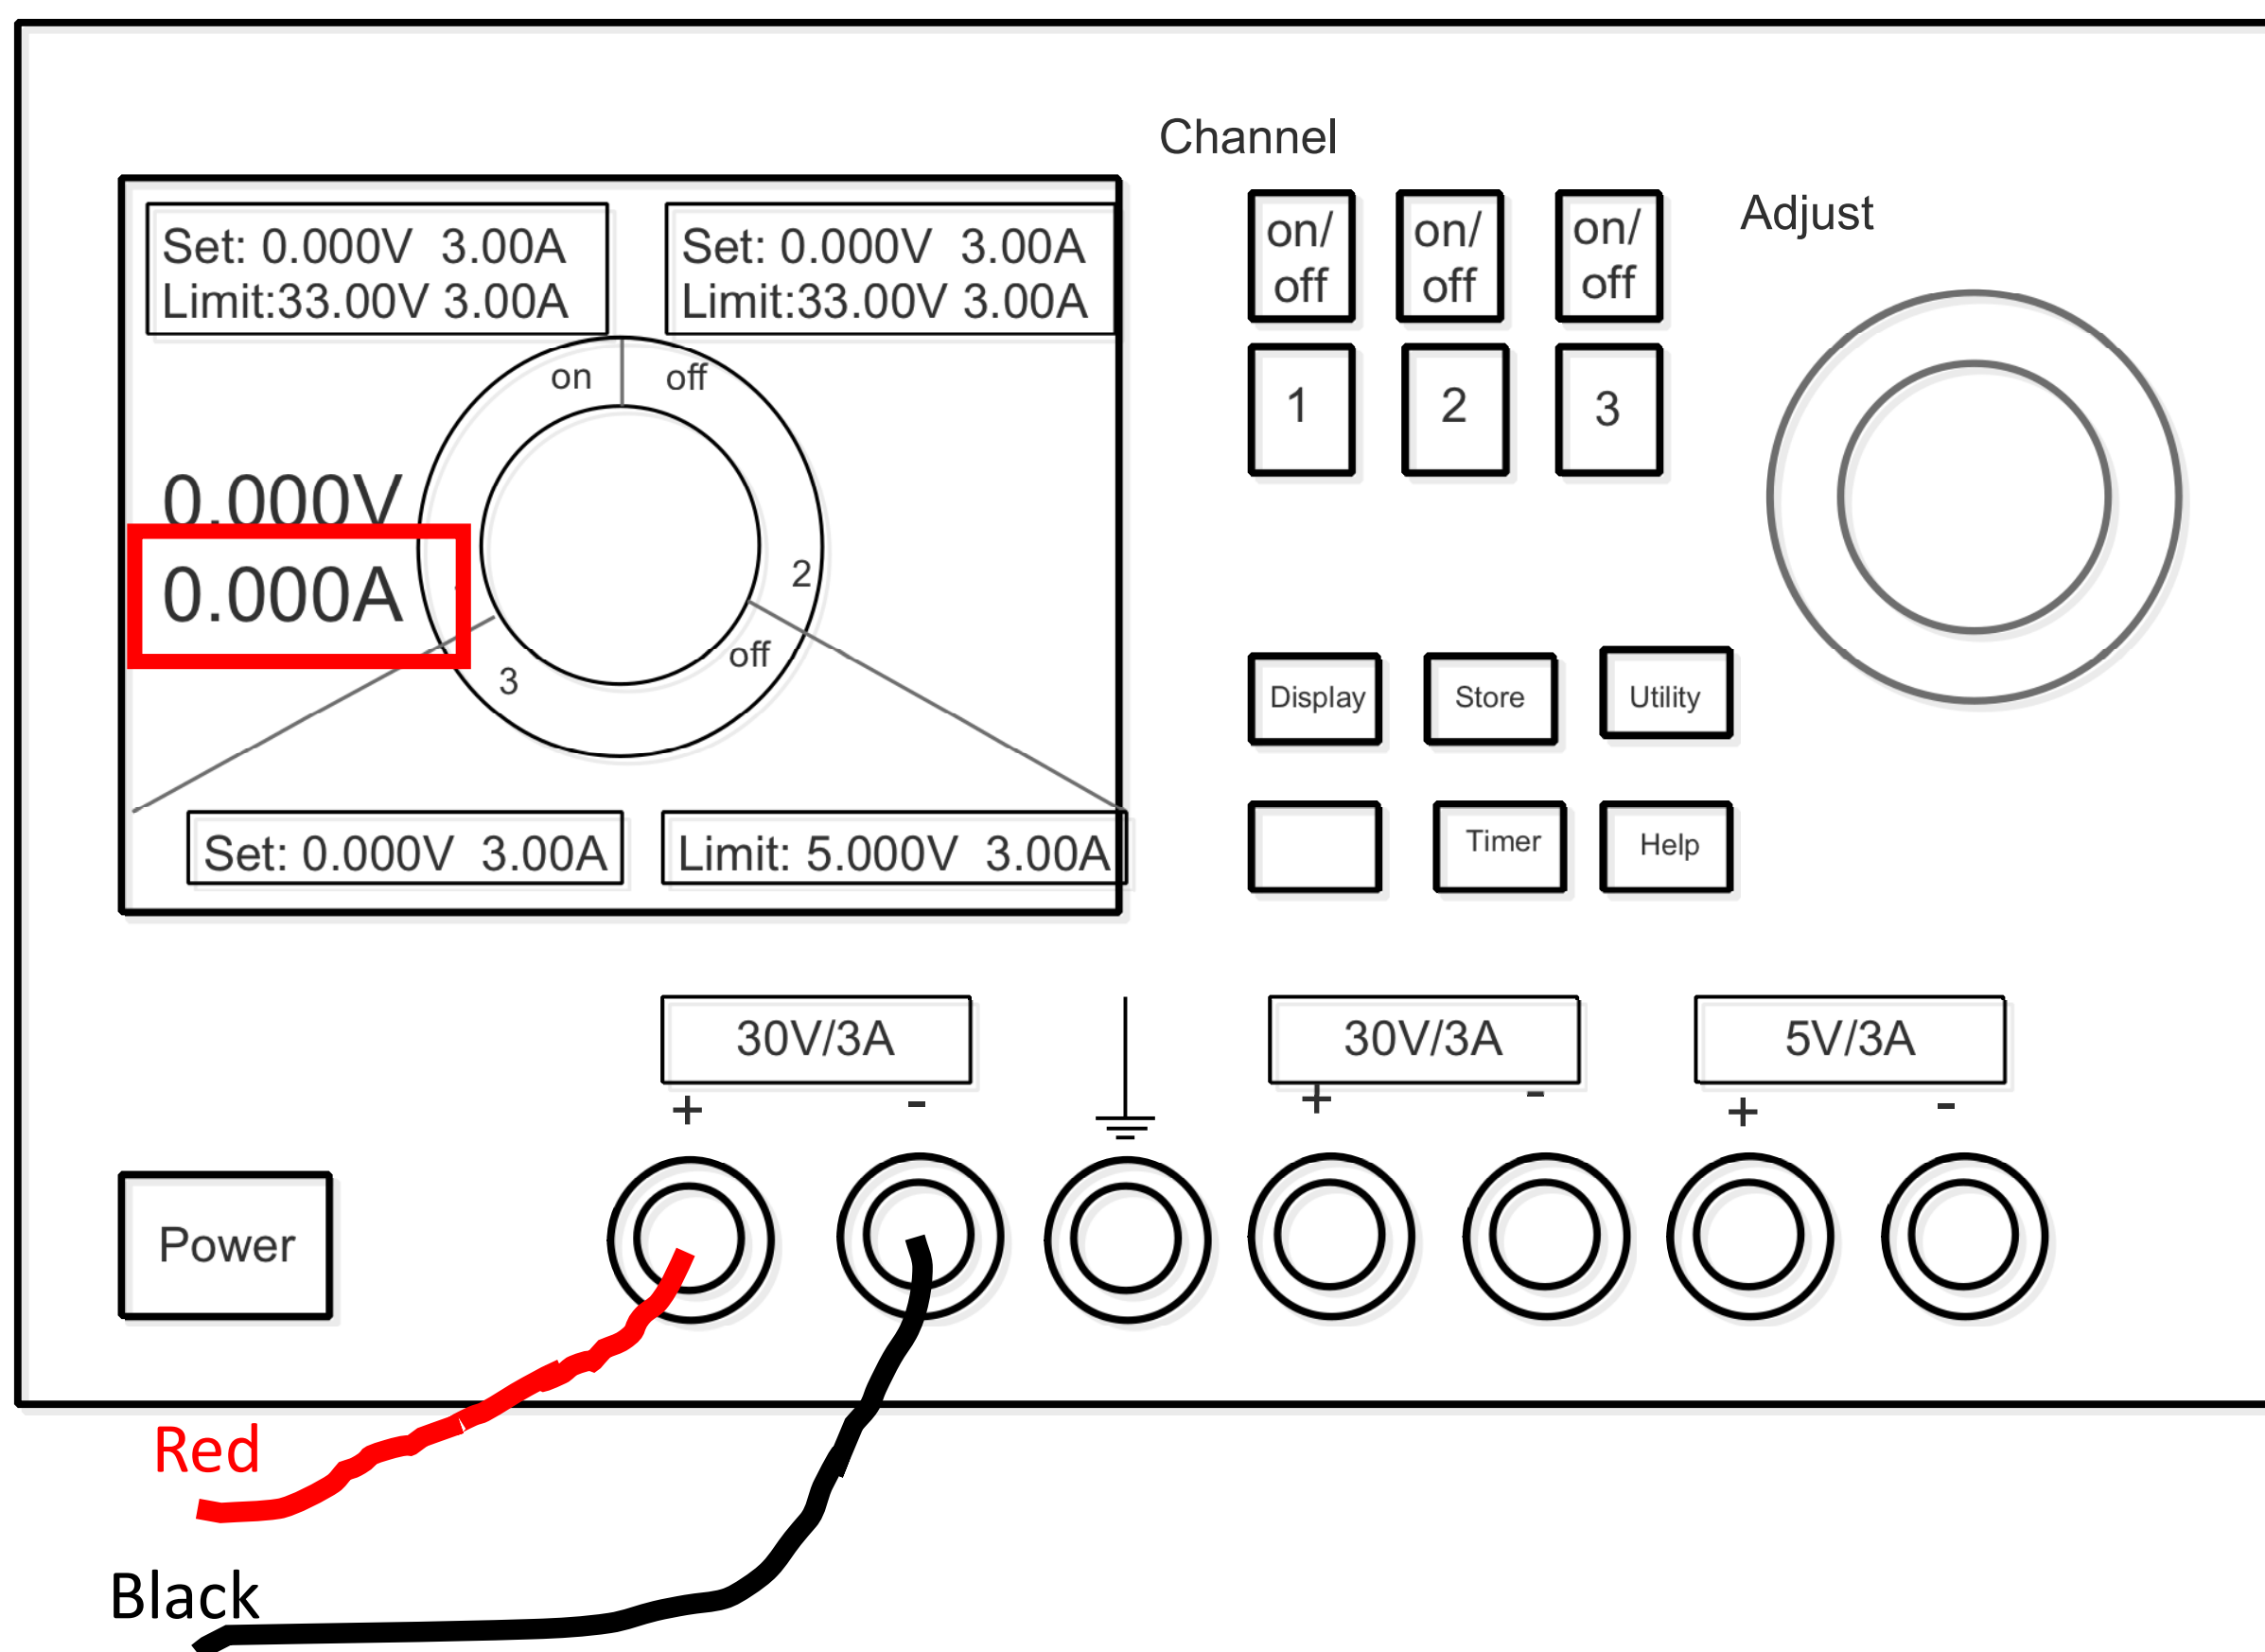

Figure 5: Configuration of the power supply when providing a voltage to a circuit
- 2) **Push the button labeled “1” under Channel area** to allow the device to deliver at most 30 volts (and currents up to 3A). You will use the pair of terminals labeled + and – of **Channel 1**. See Figure 5.
3. Make sure you make the right connection, then turn on the DC power. Run the motor for 1 minute to “warm it up”. Now we will record how much current flows through the motor. The current can be read directly from the voltage supply (As show in Figure 5).
5. Assuming you connect the circuit as shown in Figure 5 , and you use the battery as the power source. If you want most of the battery voltage appear across the motor (so it doesn't stall),  $R_l$  and  $R_r$  should be no larger than the resistance of the motor. Now measure the open circuit voltage of your rechargeable battery, answer the following question.